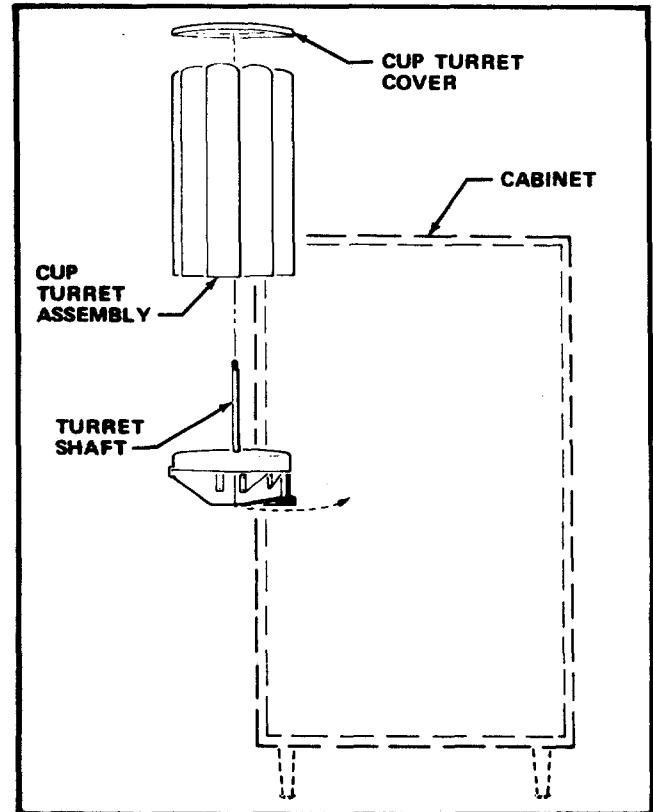

FIGURE 1
4. Remove the Cup Turret Cover from the Cup Turret Assembly. See Figure 1.
5. Lift the Cup Turret Assembly off the Turret Shaft and remove the Cups. See Figure 1.
14. Install the Cup Turret Assembly on the Turret Shaft and rotate the Cup Turret Assembly until the Shaft Pin engages the notch in the Turret Shaft. See Figure 1.
16. Install the Cup Turret Cover on the Cup Turret Assembly. See Figure 1.